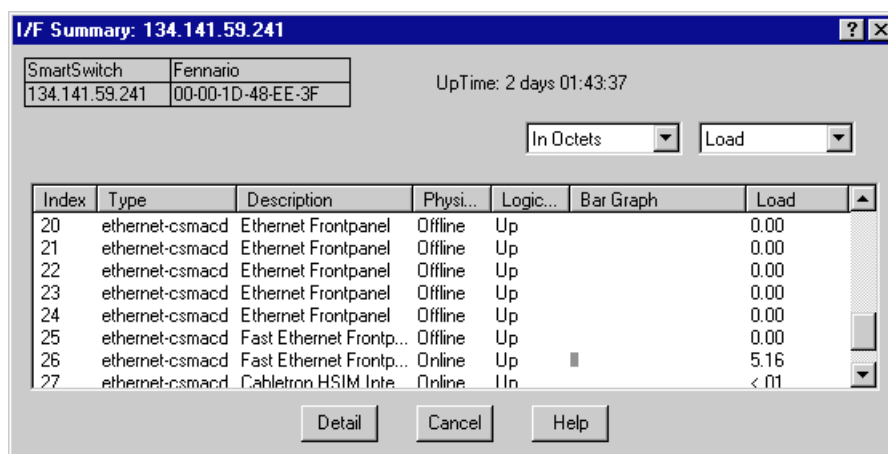

Figure 2-9. The I/F Summary Window
2. Click again to select **I/F Summary**. The I/F Summary window, Figure 2-9, will appear.